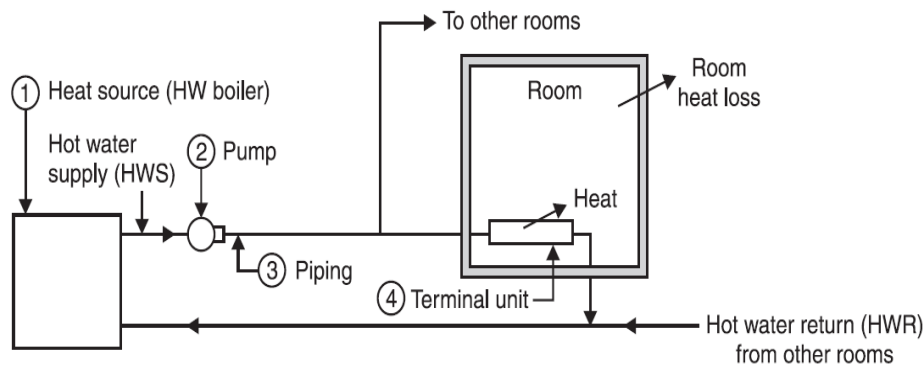

Fig. 3.1 Arrangement of basic components of a (hydronic) hot water heating system
A typical hydronic (all water) heating system is shown in Fig. 3.1. Water is heated at the heat source (1) usually a hot water boiler. The heated water is circulated by a pump (2) and travels to each room through piping (3) and enters a terminal unit (4). The room air is heated by bringing it into contact with the terminal unit. Since the water loses some of its heat to the rooms, it must return to the heat source to be reheated.